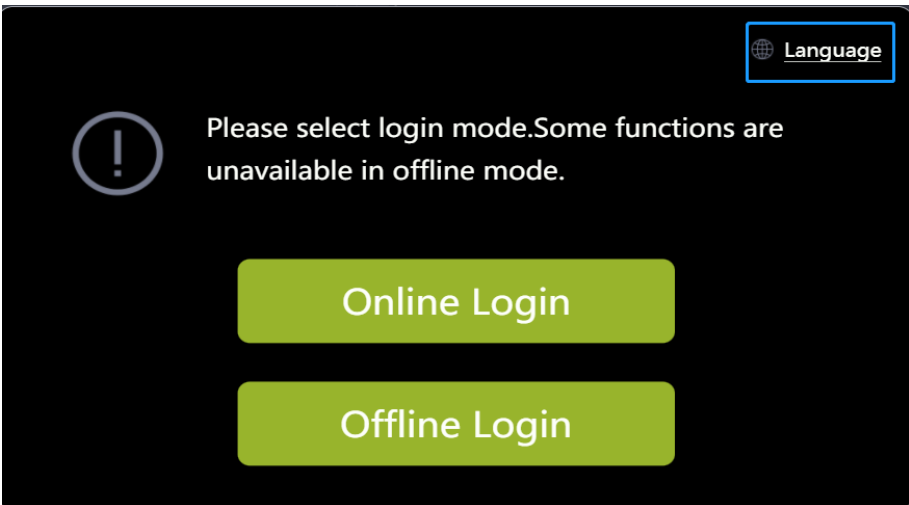
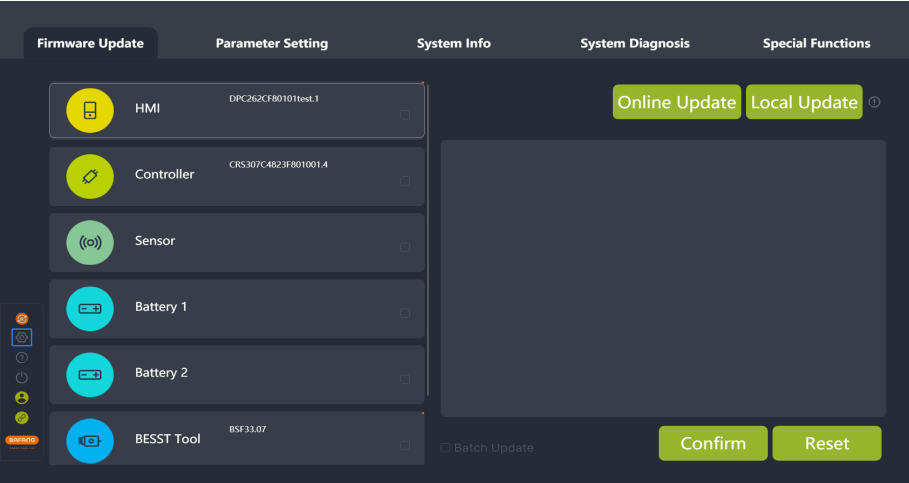

Fig 9-1 Language
Fig 9-2 Language
1. Set the language in the right corner of the Login interface (Figure 9-1) or click "Settings" on the left interface (Figure 9-2).